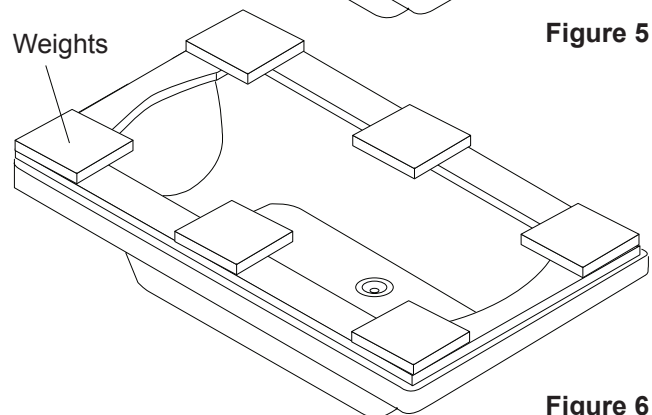

Figure 6
- ⑦ Frame must contact adhesive at all points. Lay weights (approx. 5 lbs each) on frame to hold it in place while adhesive cures (Figure 6). Immediately remove excess adhesive with a clean dry cloth before it hardens. Allow 24 hours for adhesive to set before continuing.